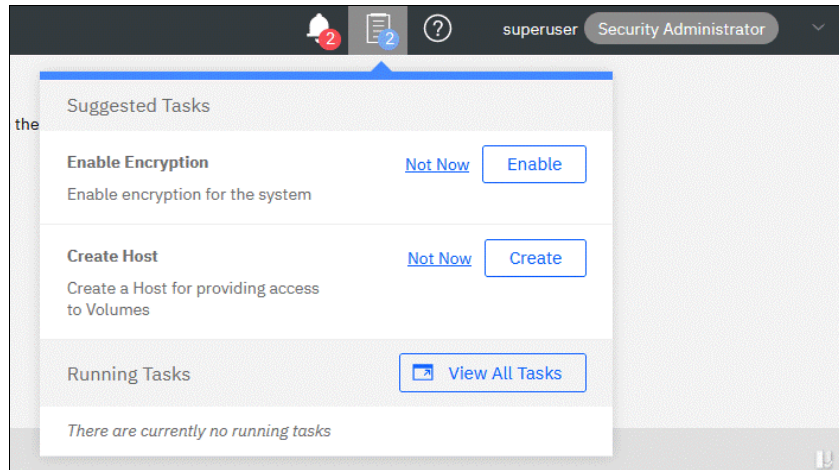

Figure 12-21 Enable Encryption from the Suggested Tasks window
- ▶ It can be started by clicking **Enable** next to **Enable Encryption** on the Suggested Tasks window, as shown in Figure 12-21.